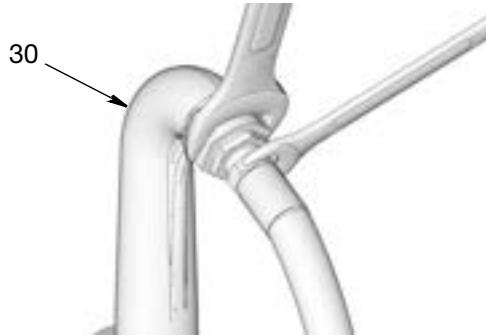

FIG. 9
9. Attach the end of the hose to the outlet (30) using two wrenches on the flats, working in opposite directions, to securely tighten the hose to the outlet fitting (Fig. 9).